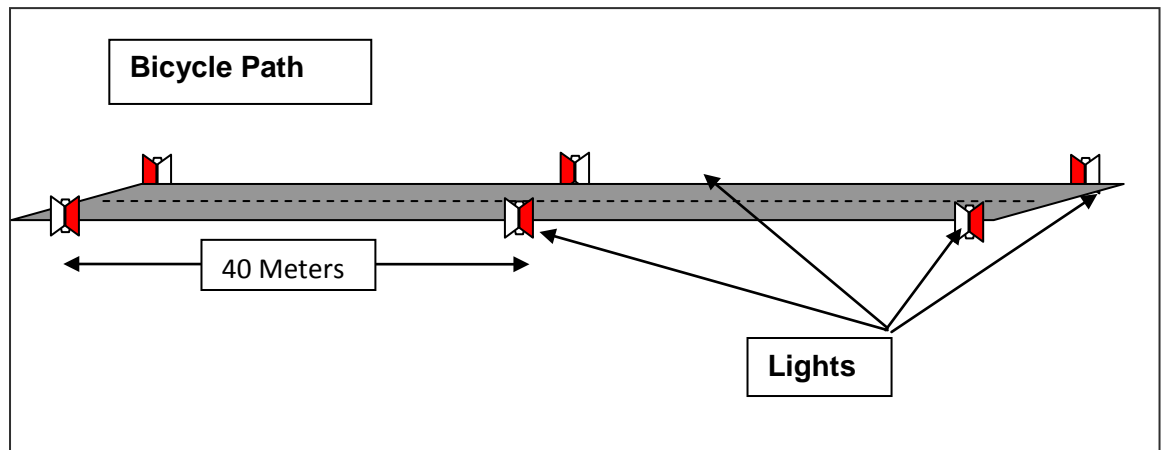
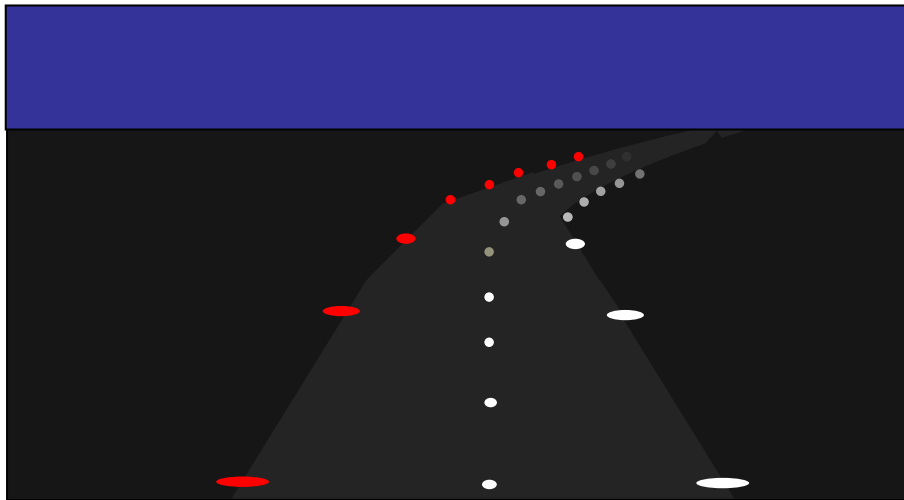

Fig. 6.
Fig. 18.
One usage is to divide shared pathways by placing them in a strip along the centre of the pathway (see Fig. 18.) and, as such, clearly defining the path's centre so that pedestrians can be guided to the left allowing bikes to pass with less risk to either party. They may also be used to emphasize painted signage that is invisible at night.
Where pedestrians and bicycles must share a common path, as there is no conventionally accepted standard, we have opted to use the small white pin head lights (GF) that are visible from all directions and thus clearly define the paths centre such that pedestrians can be guided to the left allowing bikes to pass with less risk. The effect will be a strip of ground lights clearly delineating the pathways left and right hand sides. (See Fig. 18.)
1. Initially delineating lights (S1 R/W S R/W) will be spaced according to the paths characteristics with the straights every at a minimum of every 10 meters and turns and bends lit at reducing intervals to indicate the sharpness of the directional change. (See Fig 6 and Fig 18.)
4. Where there are shared pathways S1 R/W S shall be used to delineate and other intersectional lights, as may be appropriate, with the centre of the paths being defined using the GF White. (See Fig.18.)